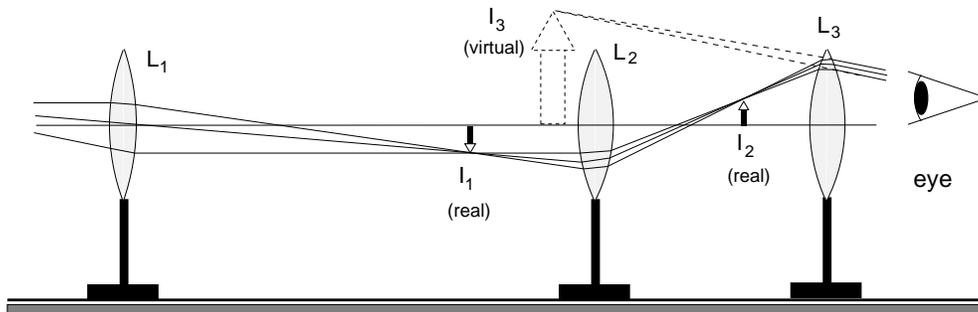

Figure 4: Configuration of a three lens erecting telescope.
- A. Measure the focal length, f , of a second strong converging lens and use it as the inverting lens L_3 (Fig. 4) to form an erecting telescope. L_2 must be adjusted to give a real image, I_2 . Notice that varying the space between I_1 and the inverting lens L_3 changes the magnification. If you are using the web-based lab manual and desire a demonstration, click on the Erecting Telescope Demo button immediately below. In this simulation you are now able to readjust both the positions and focal lengths!